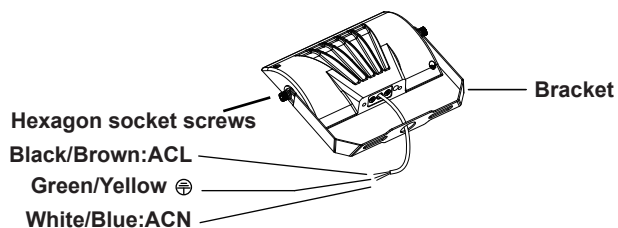

figure 3.3
Step 2: Connect the wires properly according to the right wiring requirements (pay attention to positive wire, negative wire, and ground wire), and then put the wires into lamp pole;(figure 3.3)